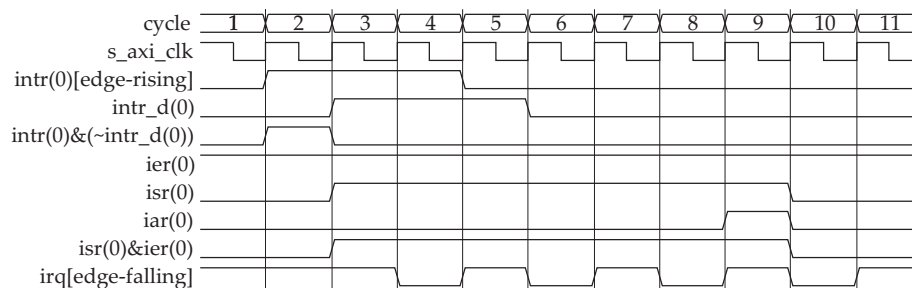

Figure 20: Input Intr - Edge Sensitive (Rising) and Output Irq - Edge Sensitive (Falling)
10. Configured Input Interrupt (Intr) for Edge sensitive (rising) and Output Interrupt Request (Irq) to Edge sensitive (falling) and is shown in Figure 20.